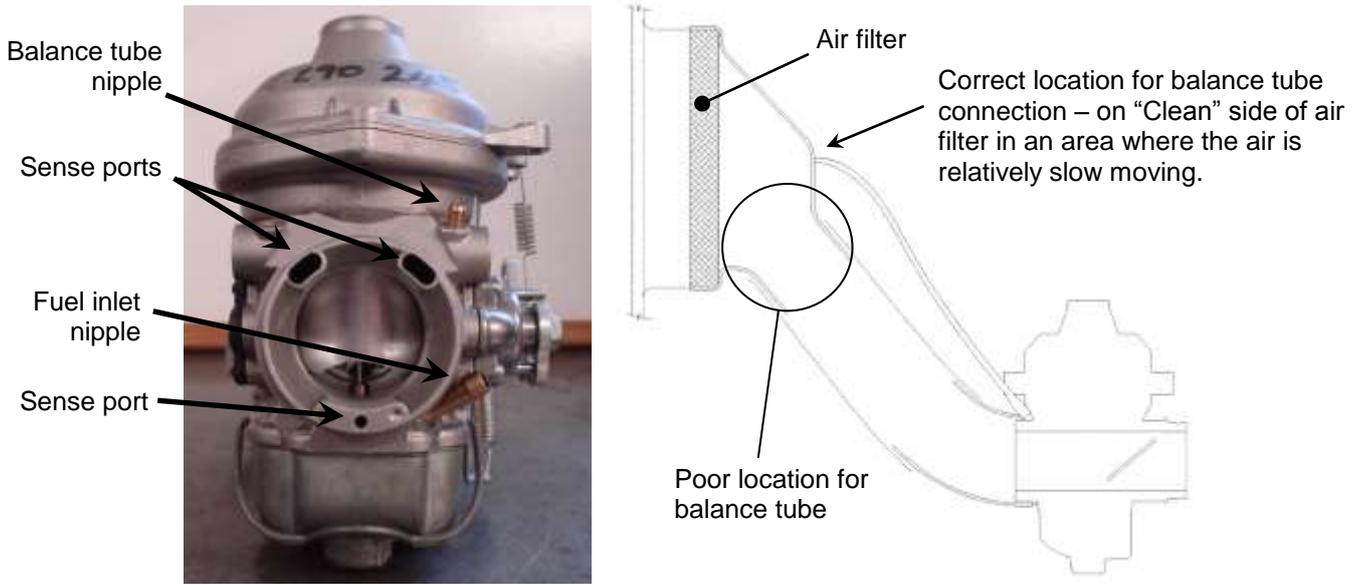

Figure 30. Carburettor Intake & Balance Tube Detail
- The Bing carburettor has a Balance tube (also known as a “sense tube”) which connects the carburettor to the air box. The tube runs from a nipple on the carburettor to the airspace in the air box on the “clean” side of the air filter. This tube is part of a system or ports which “tells” the carburettor how hard the engine is working and controls how the carburettor varies the fuel / air mixture delivered to the engine. Tuning issues and poor running will result if this tube is blocked or connected to the wrong spot. Figure 30 shows the tube installation. Note that the balance tube must not be connected to the air box in a location where the air is moving fast – rapid flows produces pressure changes and boundary layer effects which mean the balance tube gives the carburettor “bad” information, which can cause poor mixture control and running issues.